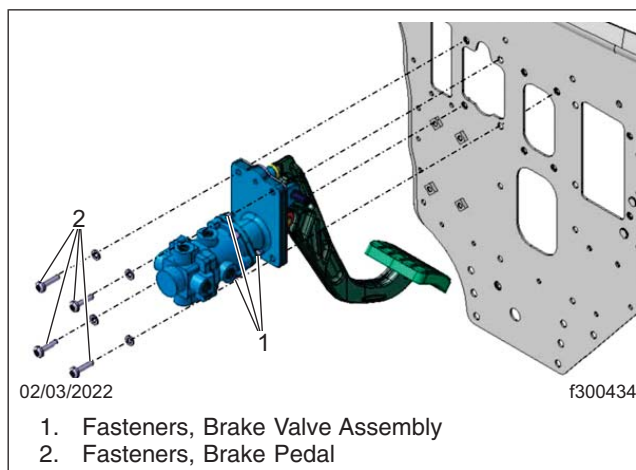

Fig. 5, Fasteners, Brake Valve Mounting
6. Remove the three mounting nuts that attach the brake valve to the mounting plate, then push the brake valve assembly to the side. See Fig. 5.
7. Remove the four bolts that attach the brake pedal assembly to the firewall, then pull the brake pedal from the outside and remove it from the vehicle. See Fig. 5.